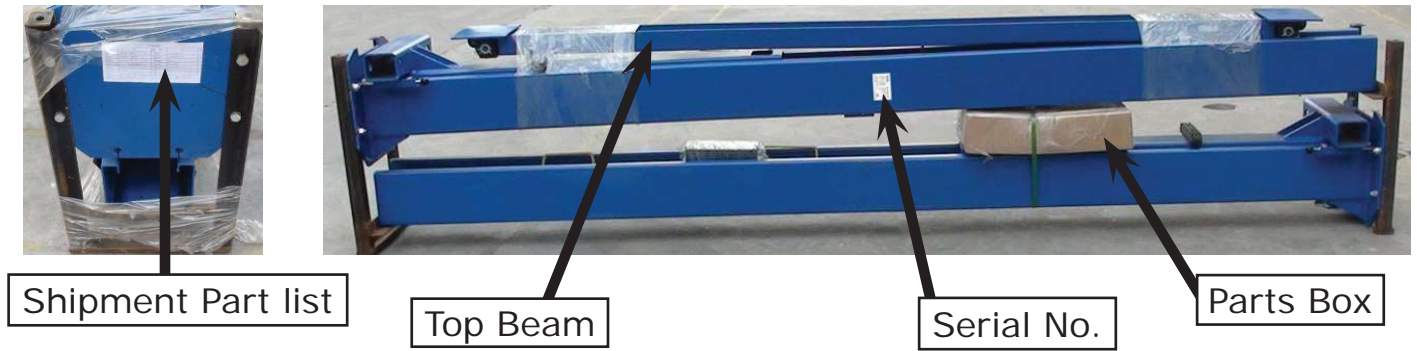

Fig. 7
2. Move aside the lift with fork lift or hoist, and open the outer packing carefully, take off the parts from upper and inside the column, take out the parts box, check the parts according to the shipment parts list (**See Fig. 7**).